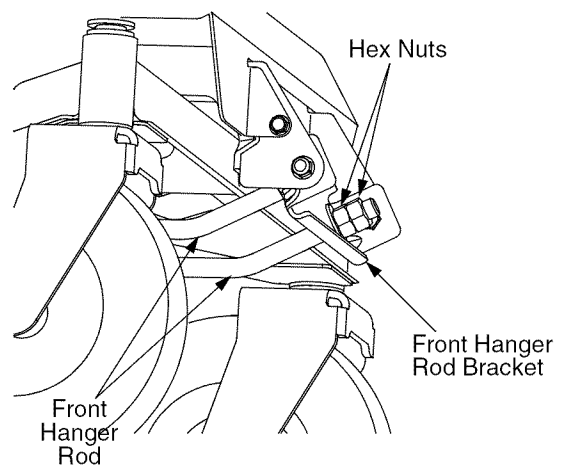

Figure 38
- From the front of the tractor, loosen the outer nuts on the deck front hanger rod, and turn them away from the inner nuts. See Figure 38.
- If the front of the deck was too low, turn the inner hex nuts clockwise against the hanger bracket to shorten the front hanger rod and raise the front of the deck. See Figure 38.